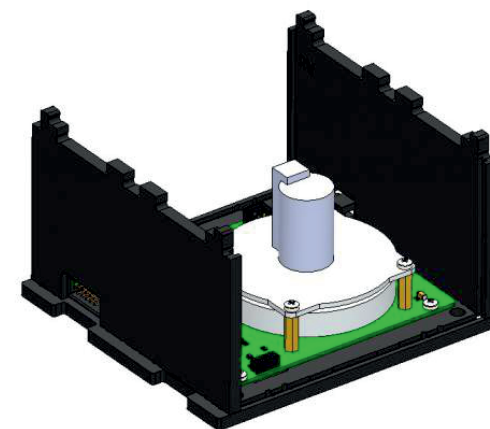

Fig. 51: Mounting side walls
2) Mount side walls on the base plate. To do that, align side wall protrusions with holes in the base plate and latch them (Fig. 51):